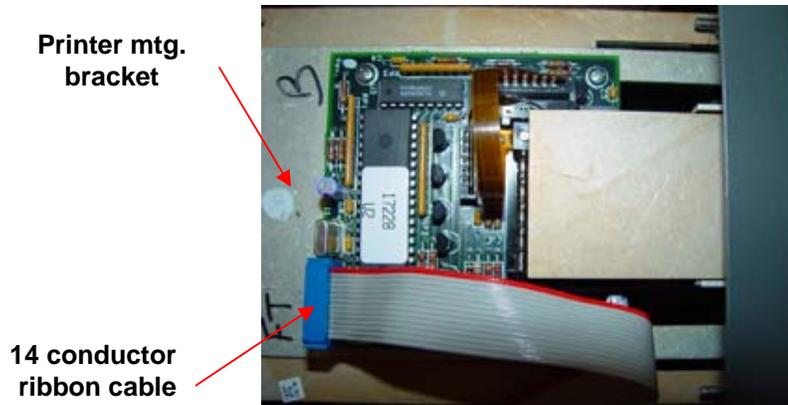

Fig. 1
4. While holding the aluminum printer mounting plate down with your finger, carefully disconnect the 14 conductor ribbon cable from P1 on the PCB. Note the orientation of the ribbon cable for reconnection. (see Fig. 1)